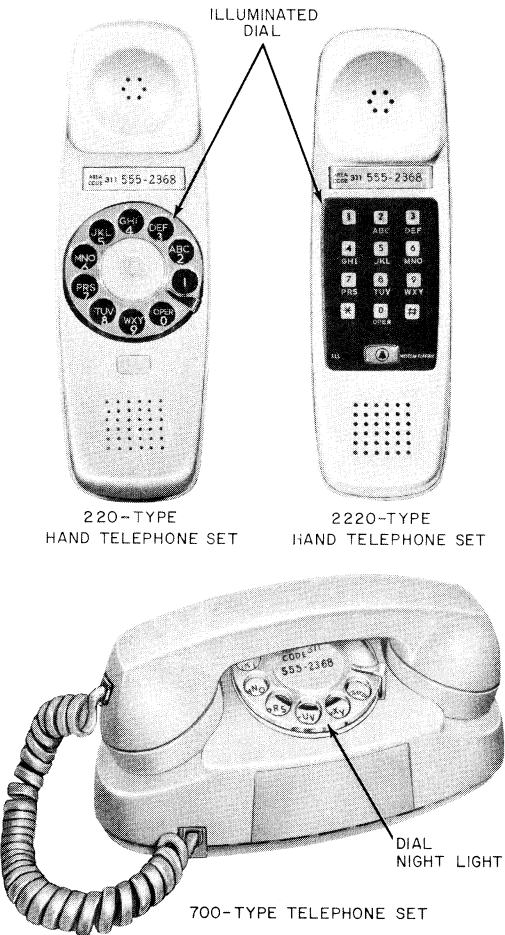

Fig. 2—TRIMLINE Handsets and PRINCESS Telephone With Illuminated Dial Feature
2.12 When the customer desires a telephone in a dimly lighted location or where security and safety may warrant the use of the telephone during the night, a set with dial night-light such as the PRINCESS® telephone (700-type) or a set with an illuminating dial such as the TRIMLINE® telephone (Fig. 2) should be recommended to the subscriber.